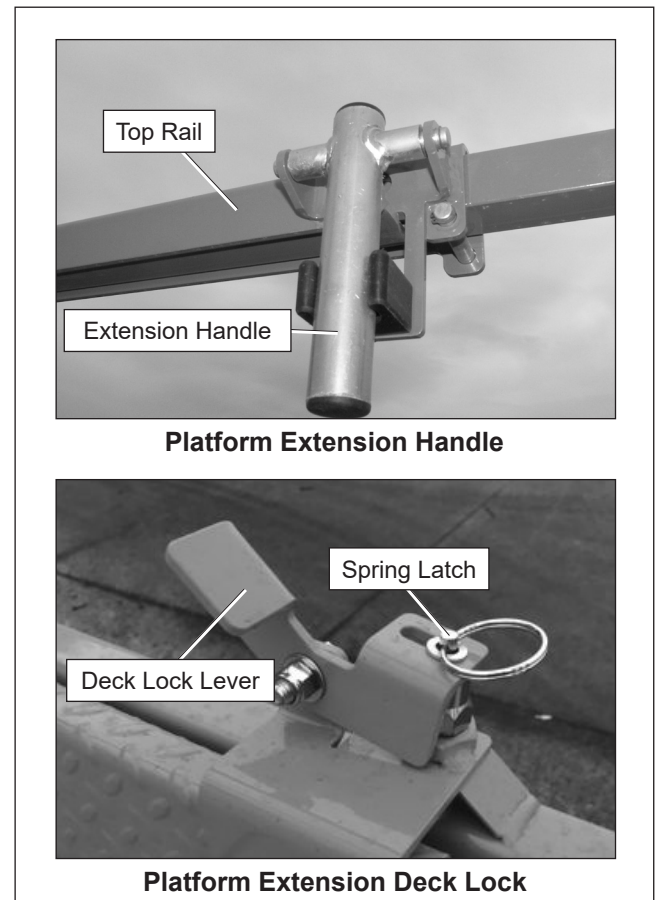

Figure 9.3 – Platform Extension Handle and Lock
deck lock lever (refer to Figure 9.3) to release the spring latch and push the extension deck forward and lock it into either the mid or front position.
2. While facing the front of the platform, grasp the platform extension handles and raise them. Step on the deck lock lever (refer to Figure 9.3) to release the spring latch pin and pull the extension deck backward to retract the deck. Try to move the rails back and forth